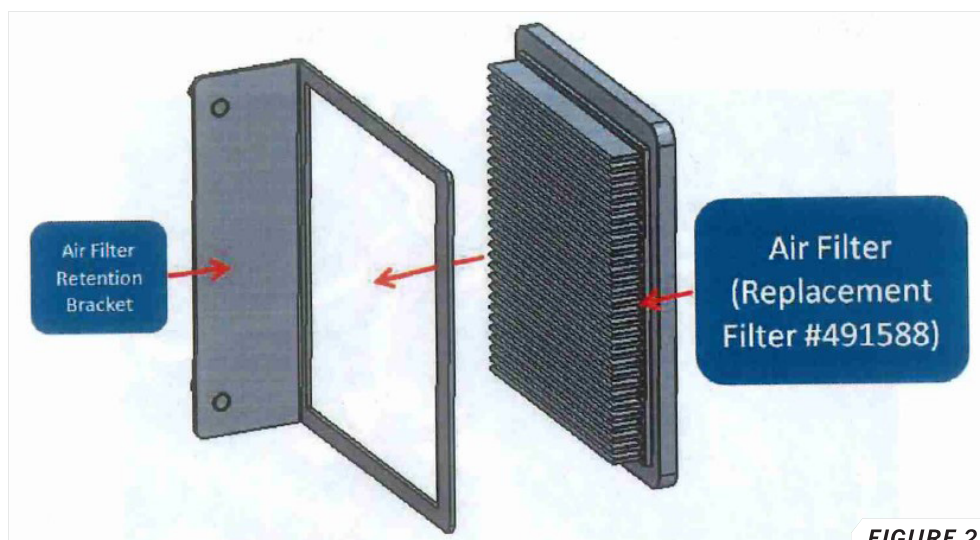

FIGURE 25
56. Insert the air filter (Replacement Filter #491588) into the air filter retention bracket as shown in *FIGURE 25*. Insert the assembly into the heater box and secure it with the two $\frac{1}{4}$ " serrated flange nuts. Change the filter annually or as needed.